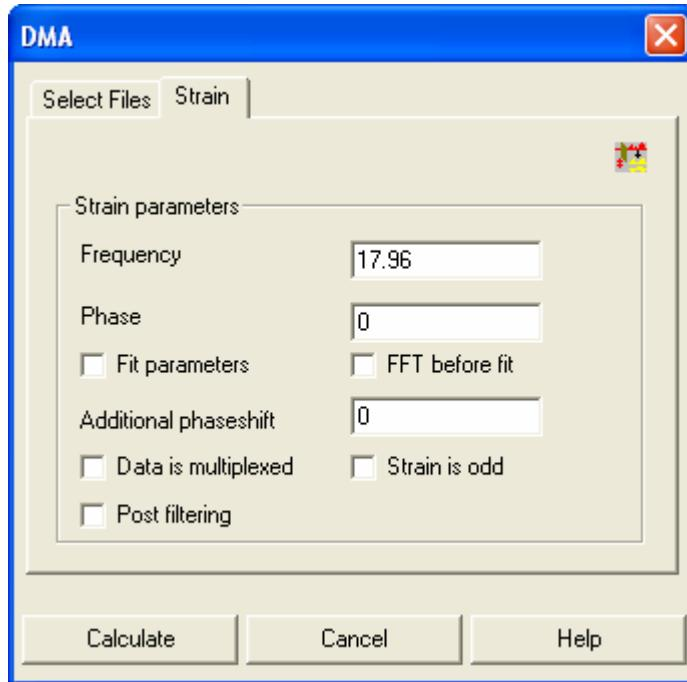

Fig.16: DMA dialog window - Strain" page. Only the parameters "Frequency" and the "Phase" are relevant to this kind of experiment.
- Click on the “Strain” tab in the “DMA” dialog window. (See figure 16.) Enter the modulation frequency of the polymer stretcher into the “Frequency” field. In most cases (particular for experiments using the Polymer ModulatorTM by Manning Technology), the value for the parameter “Phase” should be “0”. Only if you use a modulator of which the strain output has an electronic phase shift with respect to the physical strain, this can be compensated by entering a different parameter value. The remaining parameters on the “Strain” page are not relevant to this kind of experiment. (They are only useful for “old fashioned” step scan or multiplexing based experiments.) Click on the “Calculate” button.